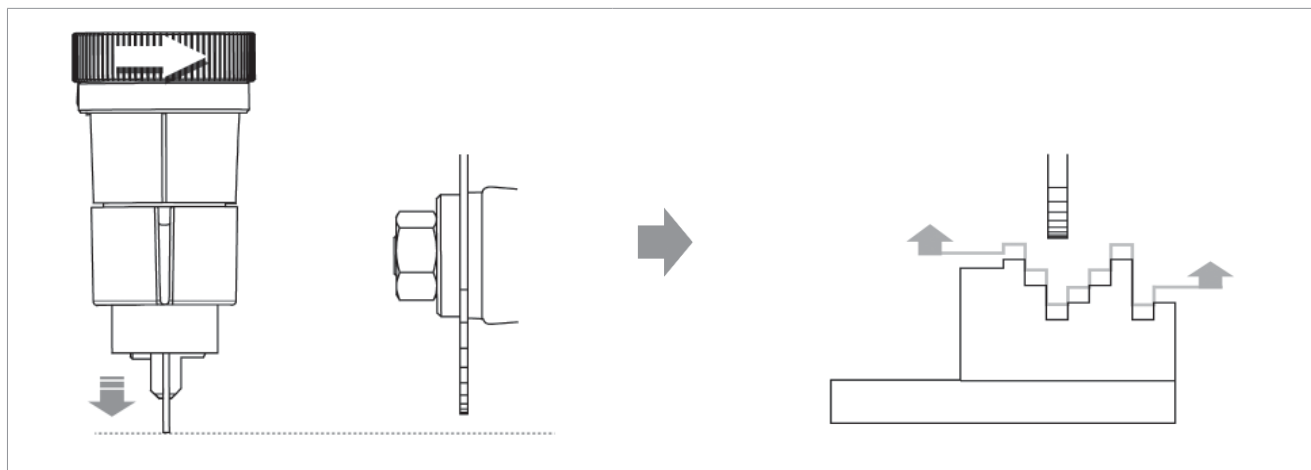

Fig.40
- turn the ring nut (D2) clockwise to move the tracer point forward (less deep cut) (Fig.40).